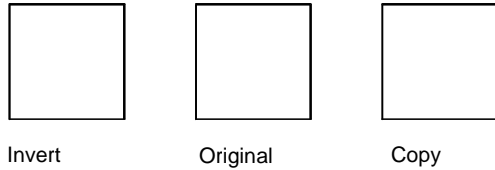

Figure 10.1: Inverting a copy.
6. Copy entities at the same distance and angle but in the opposite direction by clicking on Invert and then selecting the entities to be copied (see Figure 10.1).